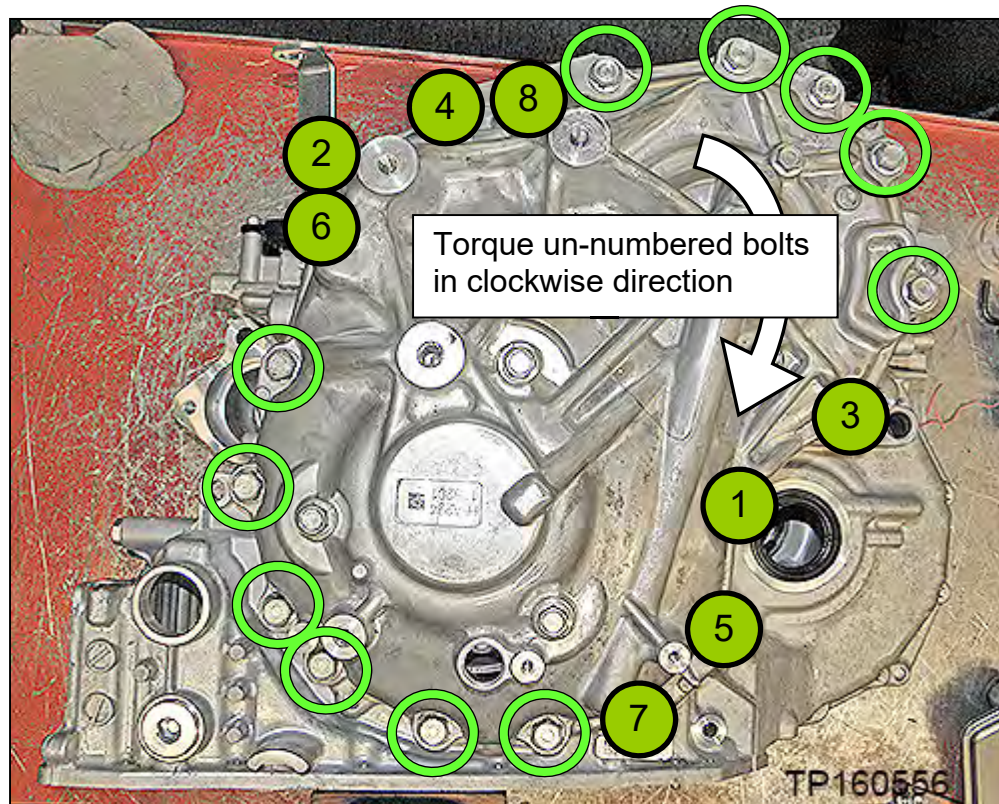

Figure 102
77. Install the new side cover bolts for sub-assembly to the CVT case (Figure 102).
- Torque the first eight (8) bolts marked as ● in the sequence numbered in Figure 102 below, and then torque the rest of the bolts in a clockwise direction.